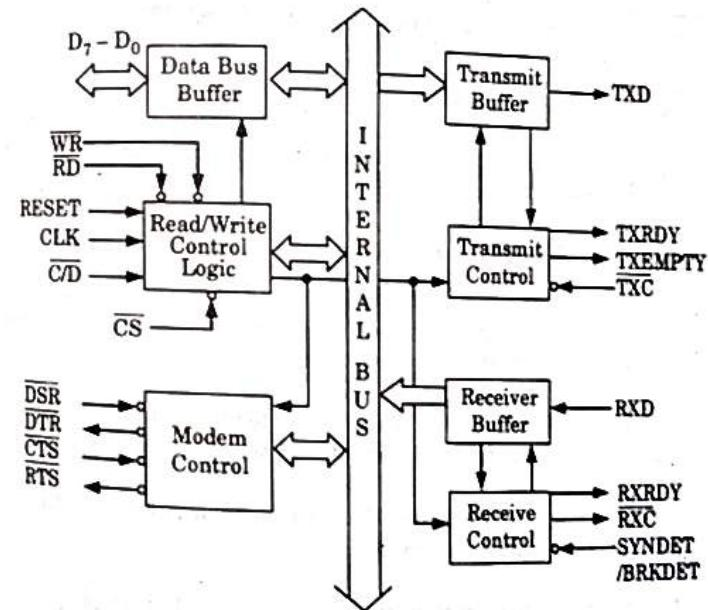

Fig. 3.25.1. 8251A Internal architecture.
1. The architectural block diagram of 8251A or 8251 is shown in Fig. 3.25.1, followed by the functional description of each block.